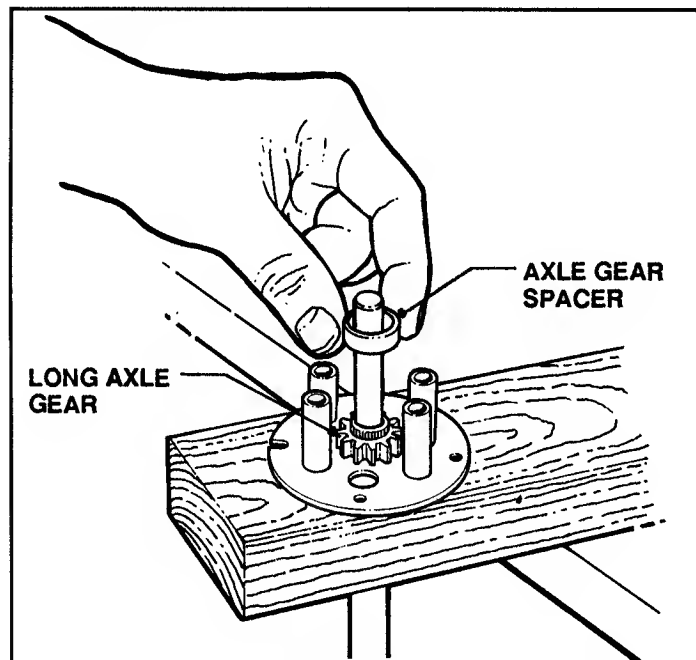

FIGURE 4.10
10. Install the Axle Gear spacer next to long axle gear around flared portion of axle. See Figure 4.10.